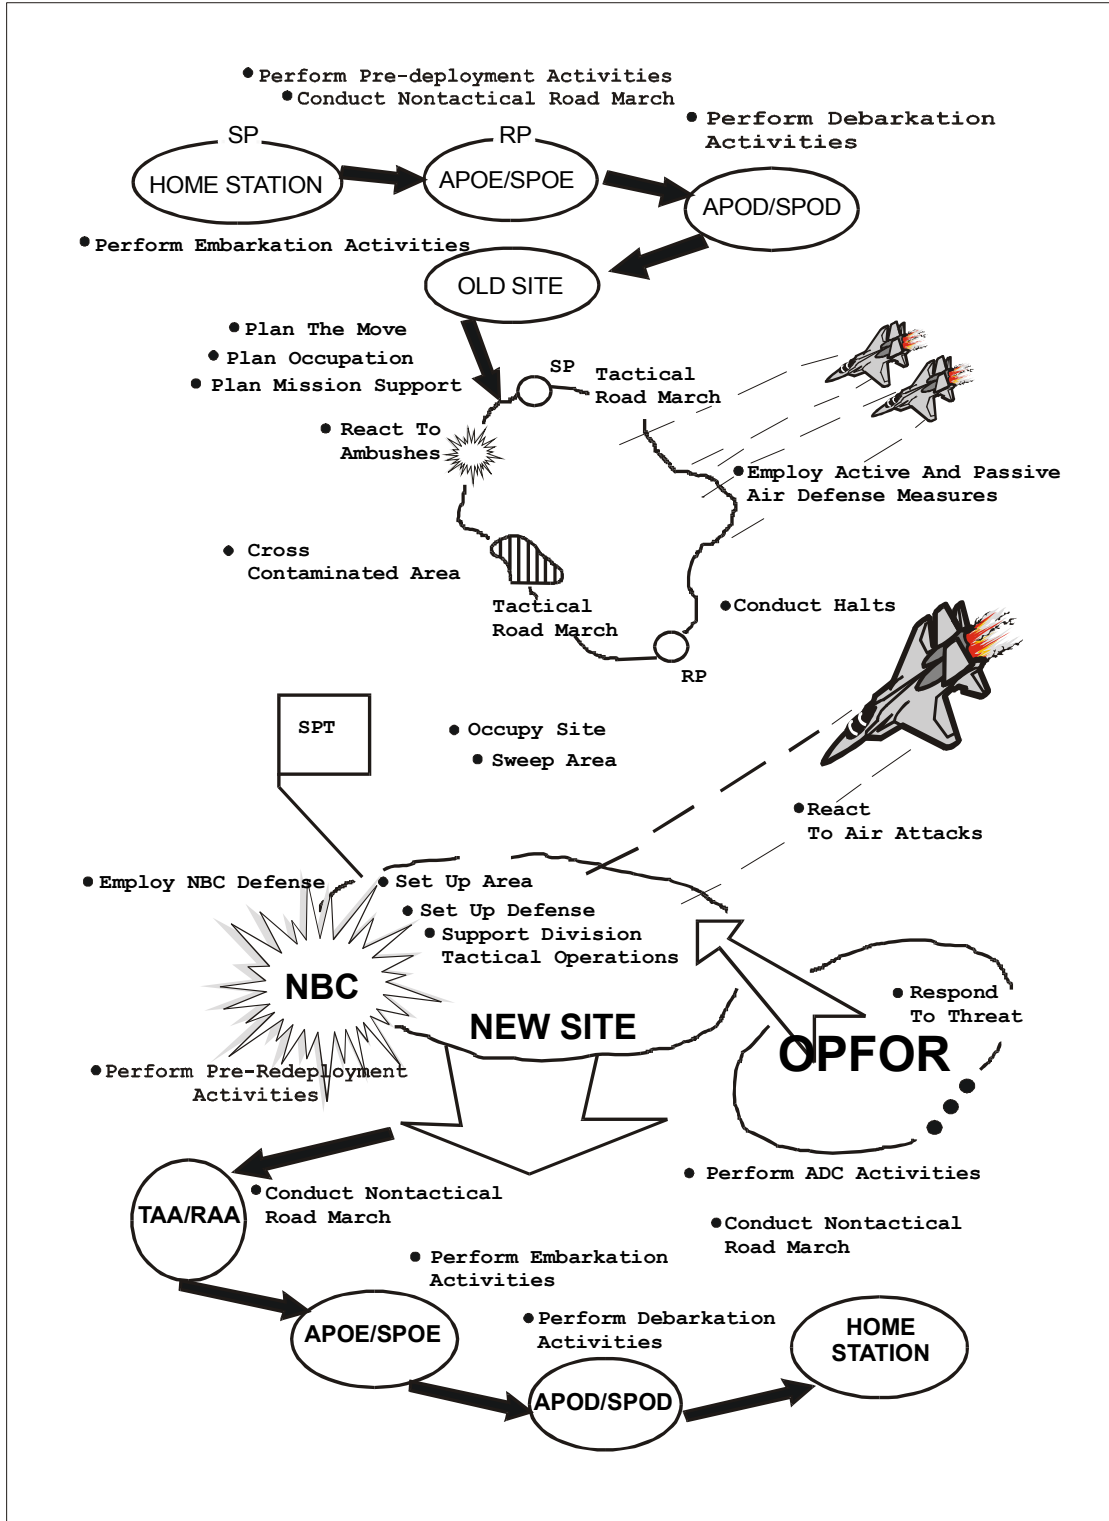

Figure 6-1. Example Graphic Evaluation Scenario
a. **Preparing the Evaluation Instrument.** Prepare the evaluation by developing a scenario containing the major missions and appropriate tasks. Compile the selected missions and tasks in the order they logically occur in the detailed scenario. Group the selected missions and tasks in parts for continuous operations. Parts can be interrupted at logical points to assess MILES casualties and conduct in-process AARs. The sample evaluation scenario in Table 6-1 contains missions, as well as the appropriate tasks necessary to develop the scenario and execute the evaluation. Selective tailoring is required, because it is not possible to evaluate every task. Figure 6-1 illustrates the general scenario of task performances in this exercise. The following procedures are suggested for developing the evaluation.
(1) Identify the missions for evaluating each echelon or element, using Table 6-1. Record the selected missions on the DA Form 7506 \(Unit Proficiency/Evaluation Worksheet\).
(2) List each mission on a DA Form 7502 \(Task Summary Sheet\).
(3) Select the tasks for the evaluation of every mission. List the selected tasks on the Task Summary Sheets, which are used for recording the results of the evaluation.
(4) Compile the selected missions and tasks in the order they logically occur in the detailed scenario. Group the selected missions and tasks in parts for continuous operations, Table 6-1, Sample Evaluation Scenario. Parts can be interrupted at logical points to assess MILES casualties and conduct in-process AARs.